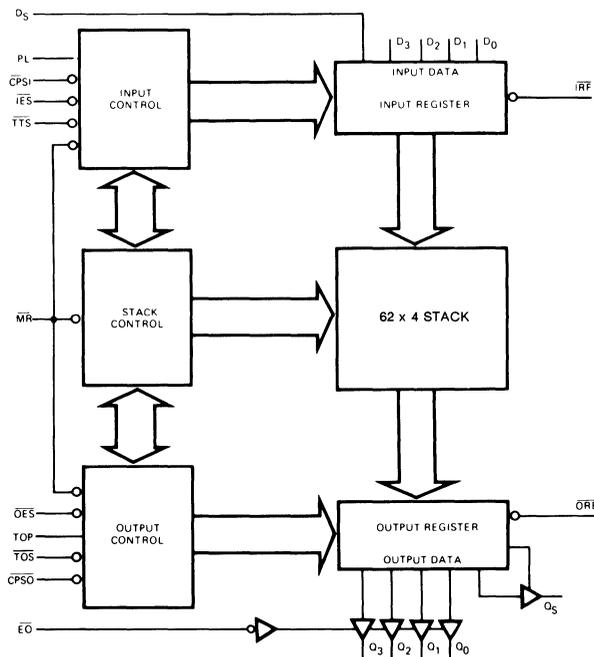

Fig. 1 Conceptual Input Section
This 5-bit register (see Figure 1) is initialized by setting flip-flop F₃ and resetting the other flip-flops. The Q-output of the last flip-flop (FC) is brought out as the Input Register Full (IRF) signal. After initialization, this output is HIGH.